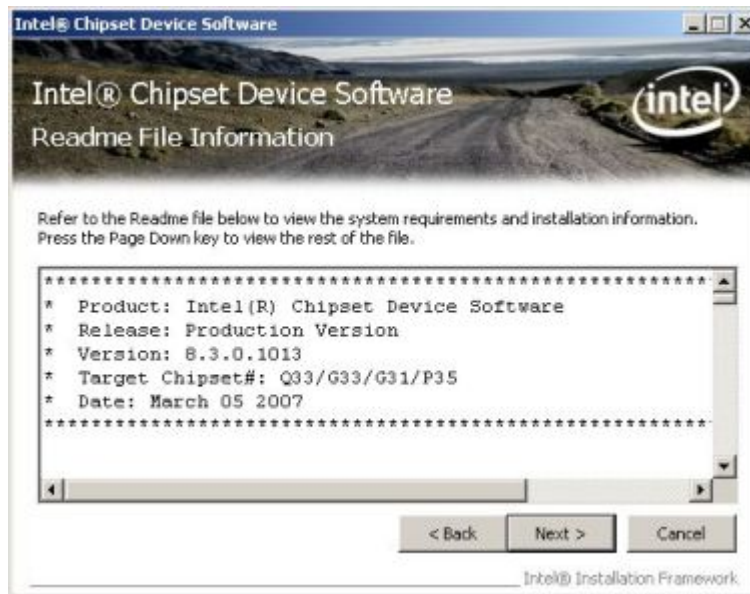

Figure 6-8: Readme File
Step 12: The **Readme** file in **Figure 6-8** appears.